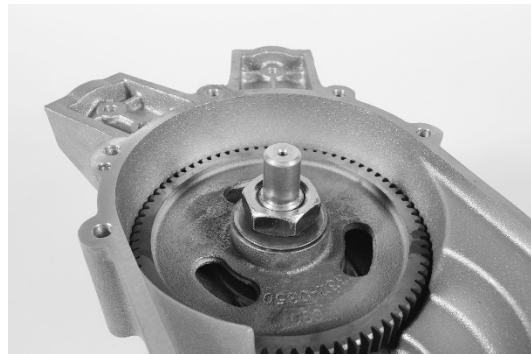

FIGURE 35
24. Attach torque wrench and 1-7/16 inch (36.5 mm) socket to 1-1/4 inch (31.8 mm) nut and rotate slowly to a maximum bearing drag of 30 INCH POUNDS (3.4 N.m.). This value should allow a MAXIMUM .003 inch (0.076 mm) of freeplay in the bearings. A greater amount of bearing drag will significantly decrease load capacity of bearings and contribute to premature bearing failure. If bearing value is less than or greater than the 30 inch pound (3.4 N.m.) value, readjust self-locking nut torque value to produce desire result. FIGURE 35